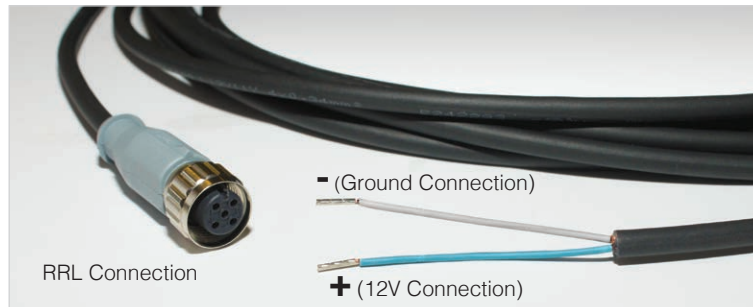
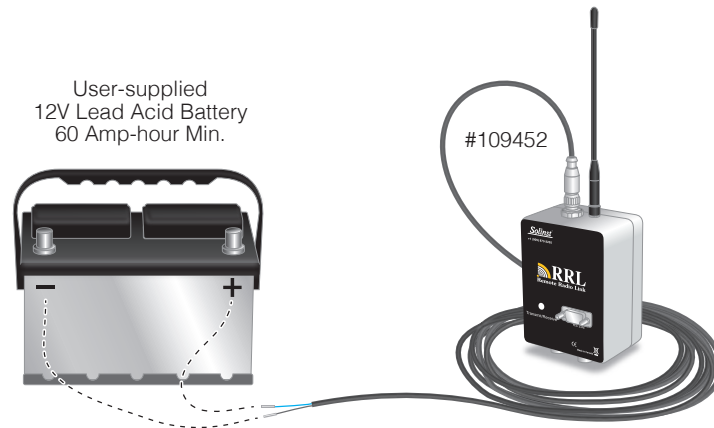

Figure 6-5 Solar/12V Cable Assembly (pt# 109452)
Figure 6-6 External 12V Lead-Acid Battery Connection
- Using the Solinst-supplied Solar/12 Volt Cable Assembly (pt# 109452), shown in Figure 6-5, to connect to a user-supplied external 12V lead-acid battery (minimum 60 Amp-hour). See connection diagram in Figure 6-6.